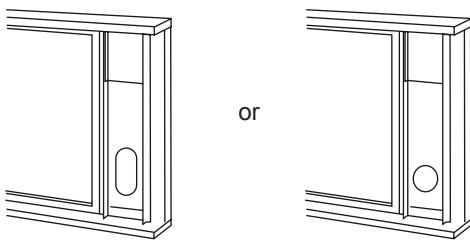

Fig.14
4. Cut the foam seal (adhesive type) to the proper length and attach it on the top of the window. See Fig. 14.